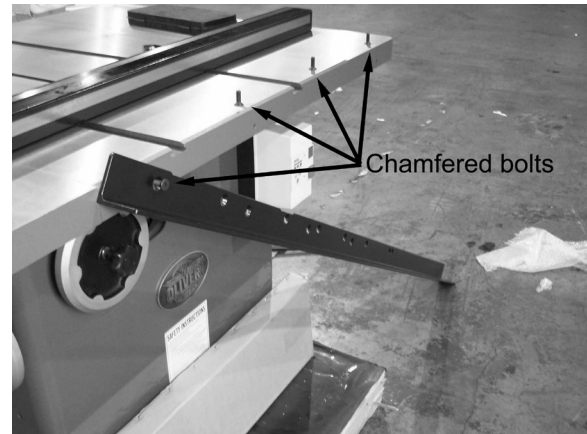

Figure 4
1. Install the front rail support to the saw using the four supplied chamfered bolts found in the hardware packet of the rails. It is easiest to start with the first hole as shown in figure 4, using the floor to rest the end of the rail on. Note that the rail comes pre-drilled for use on other saws so it is a matter of lining up the holes in the saw with the correct rail holes.